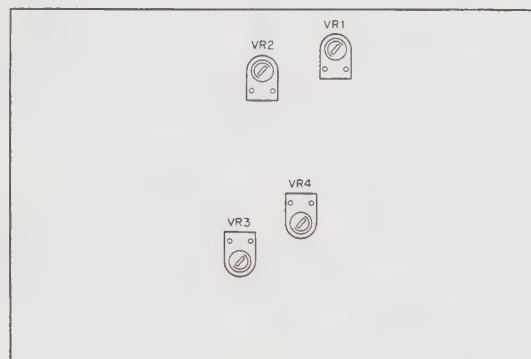

Fig. 28 AF • AVR unit
- 3) Turn OFF RIT switch and adjust VR2 in AF AVR unit (X49-1080-00) until the beat frequency is kept unchanged when RIT switch is turned ON and OFF (refer to Fig. 28).